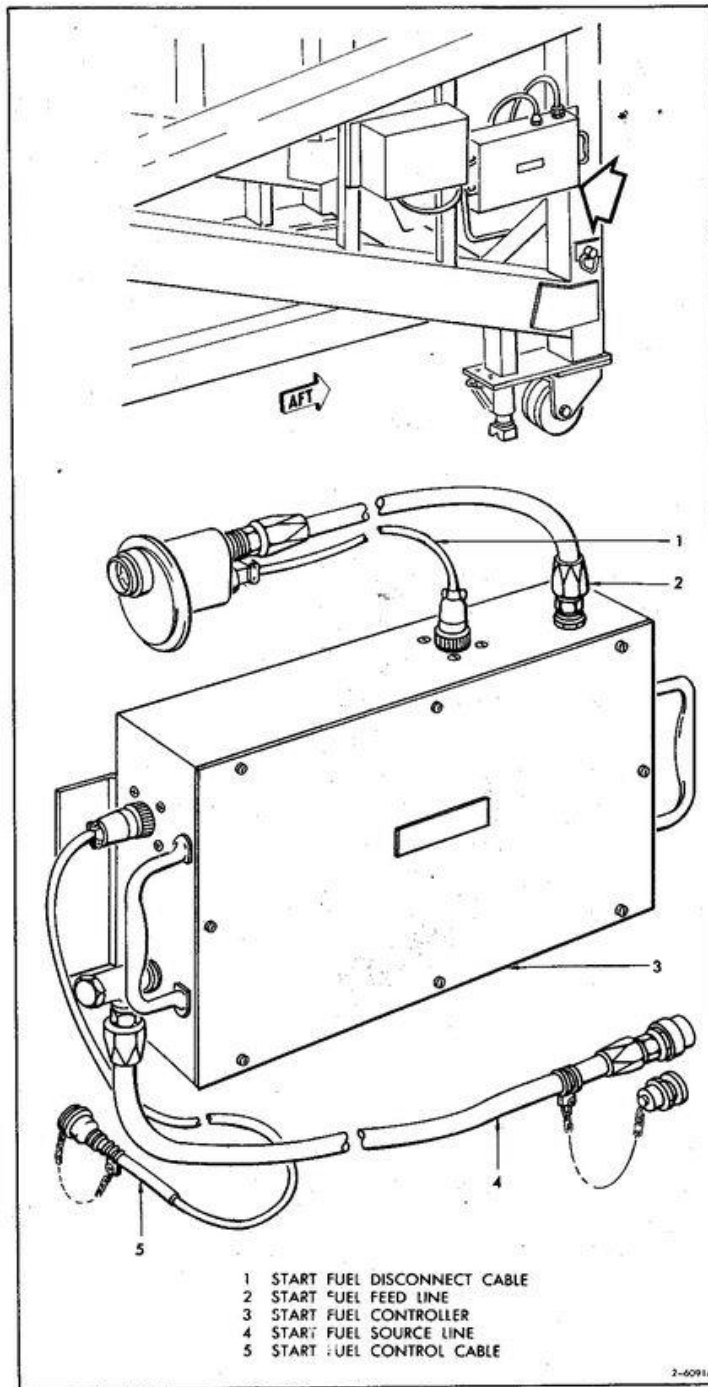

Figure 3-5. Engine Start Fuel Controller
a. Install Engine Start Fuel Controller (3, figure 3-5) on engine start fuel controller brackets aft on left side of launcher.
b. Connect start fuel source line (4) between controller and start fuel source disconnect located beneath walkway grating on left side of Missile.
c. Connect start fuel control cable (5) between J1 on controller and J9010 on Umbilical Outlet Box.